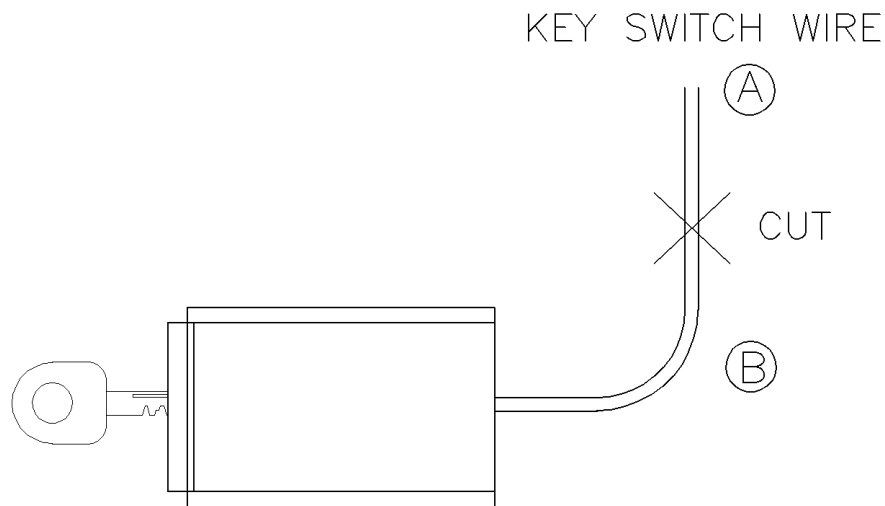

Figure 5-5: Key Switch Wire Cut Details
2. Cut the fuel pump control wire near the key switch. Refer to truck manufacturer or body builder documentation for wiring location and details. The wire end at the switch is labeled (B), the wire end to the fuel pump is labeled (A). See Figure 5-5 for details.